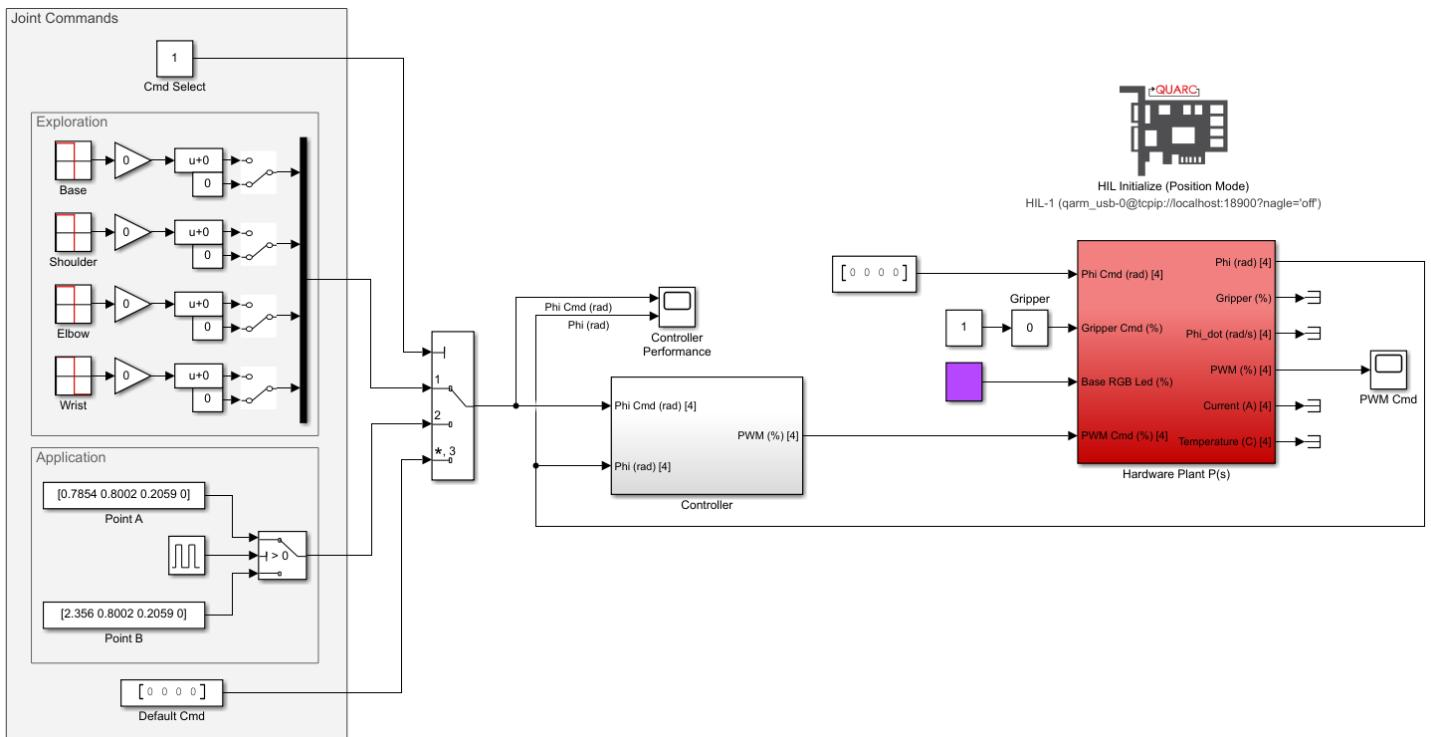

Figure 1: Simulink model that controls the QArm in PWM Mode.
1. Open the Simulink model LowLevelControlPWMMode.slx (Figure 1). For this section of the lab you will use the switches and gains in the Exploration Box to select the setpoints for the base, shoulder, elbow and wrist motors. With varying setpoints, you will tune the proportional, integral, and derivative (PID) terms of the joint controllers to examine their effect on performance characteristics mentioned in the Concept Review.